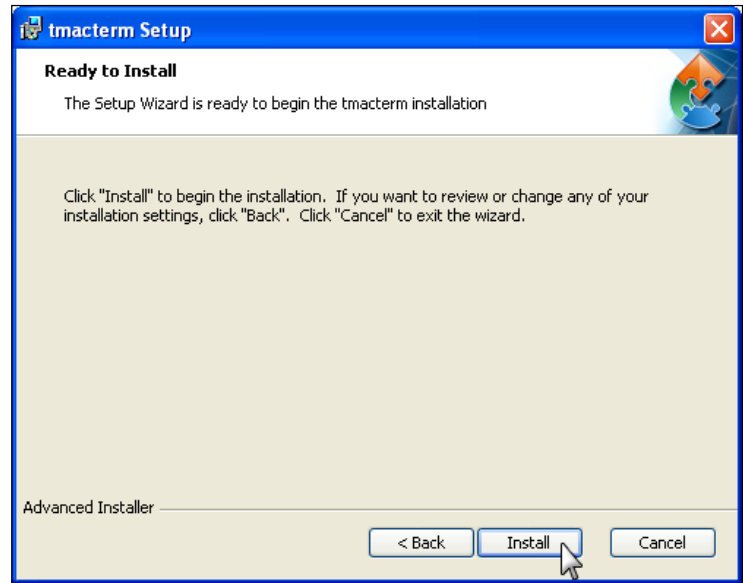

Fig. 33
5. Click *Install* to begin the DTMAC term installation (Fig. 33).